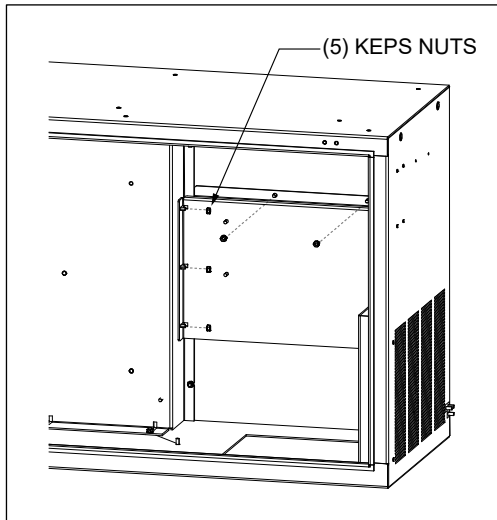

Figure 9 Power Supply Base Plate
9. Install the power supply base plate to the CUBE rear panel, to the right of the rear duct using five Keps nuts (Figure 9).